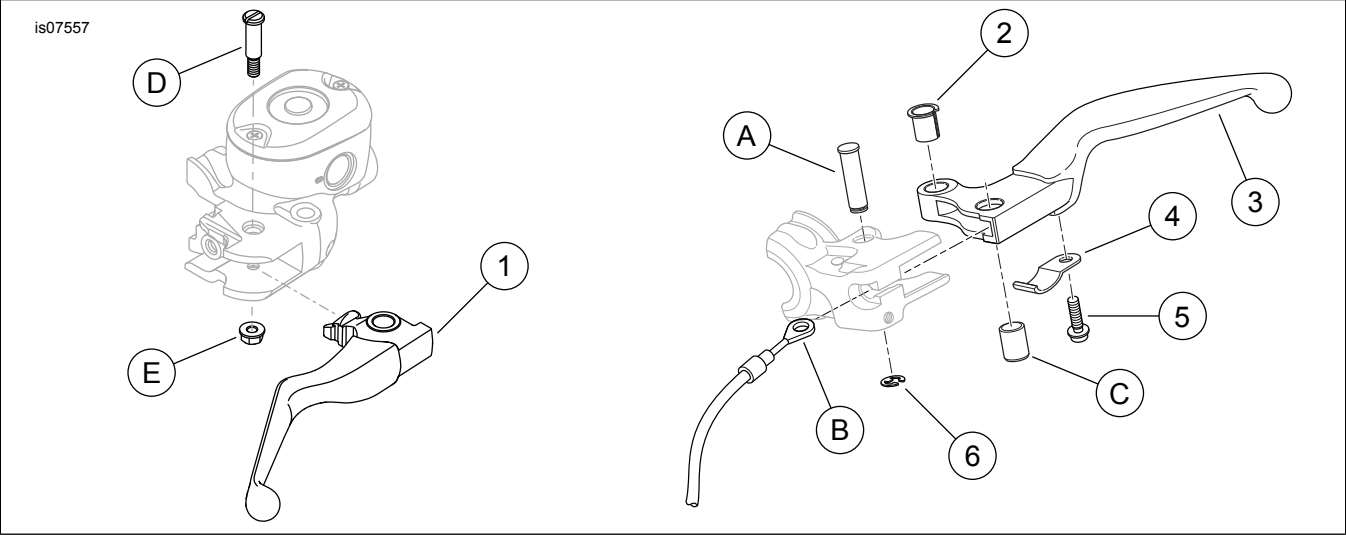

Figure 1. Service Parts: Hand Lever Kit
See Figure 1 and Table 1.
1. See Figure 1. Remove nut (E) and pivot pin (D).
2. Remove the brake lever (1).
1. See Figure 1. Lubricate the pivot pin hole and pivot pin (D) with G40 Brake Grease.
2. Insert the brake lever (1) into position and align the pivot pin holes.
3. Install the pivot pin (D). Tighten to 0.5–1.5 N·m (5–13 in-lbs).
4. Install the nut (E). Tighten to 4.9–6.9 N·m (44–61 in-lbs).
1. See Figure 1. Remove the retaining ring (6) and pivot pin (A). Discard retaining ring.
2. Remove clutch lever (3) from clutch lever bracket.
3. Remove clutch cable pin (C). Disconnect clutch cable (B) from lever.